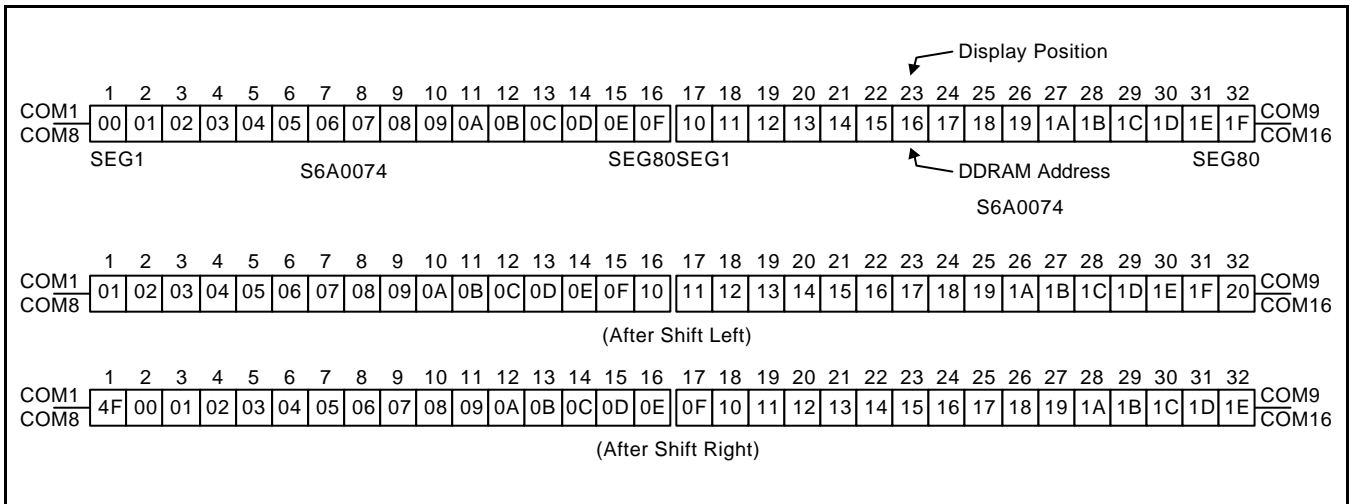

**Figure 1. DDRAM Address**
DDRAM stores display data of maximum 80 x 8 bits (80 characters). DDRAM address is set in the address counter (AC) as a hexadecimal number. (refer to Figure 1.)